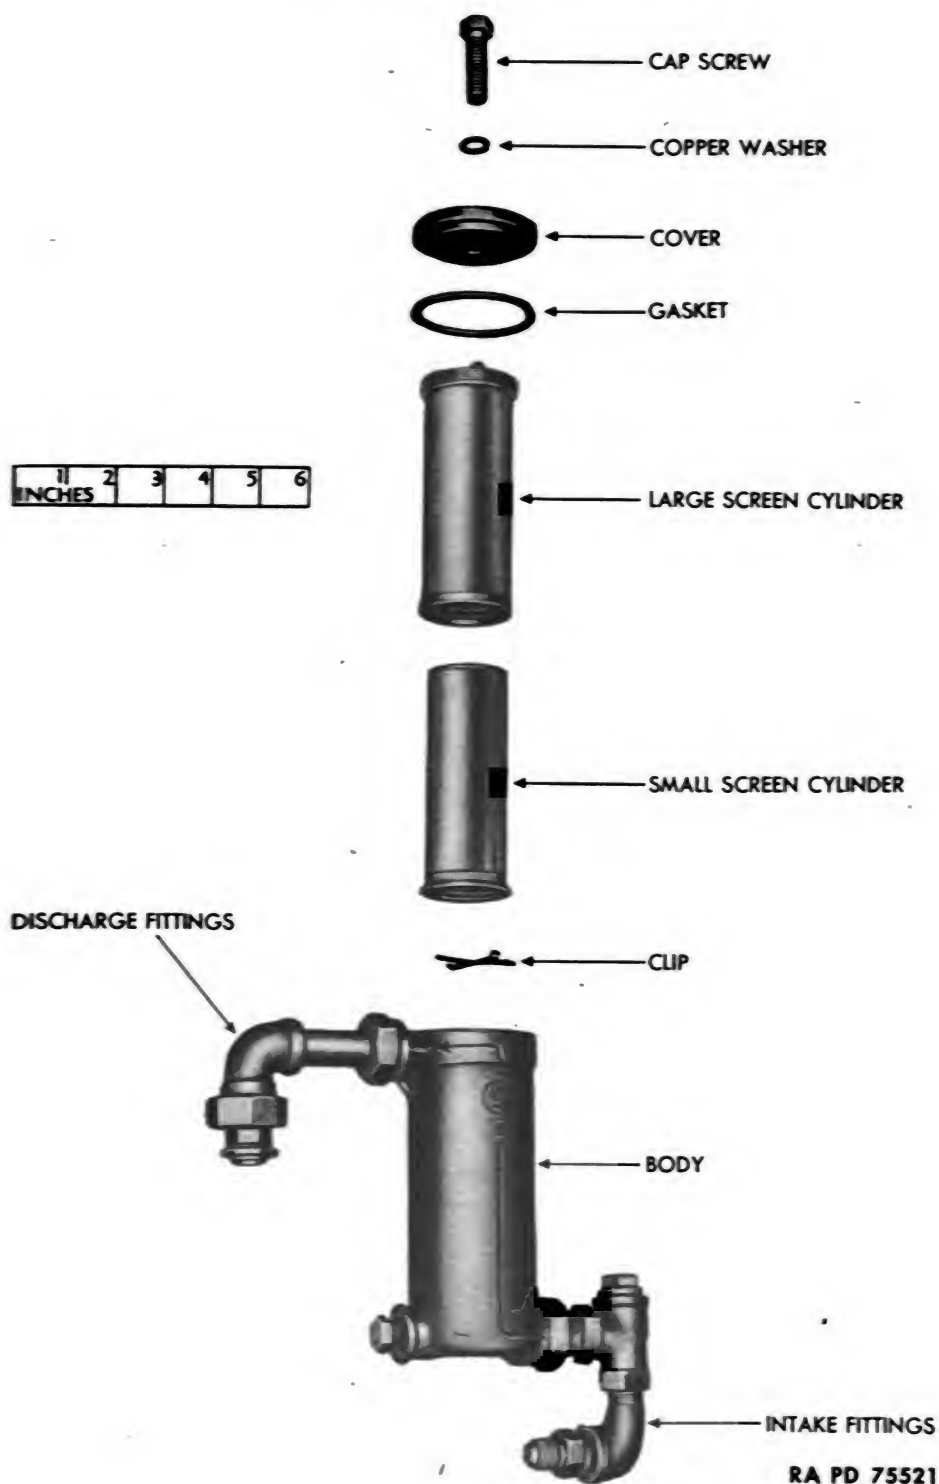

Figure 123—Steam Generating Plant Fuel Oil Strainer—Exploded View
(2) **DISASSEMBLY (fig. 123).**
(3) **ASSEMBLY (fig. 123).**